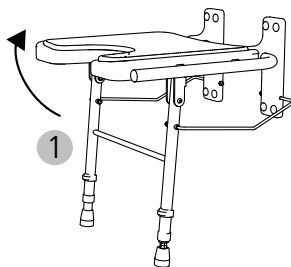

Abb. 6
1. Pull up the seat for folding up (Fig. 6, 1).